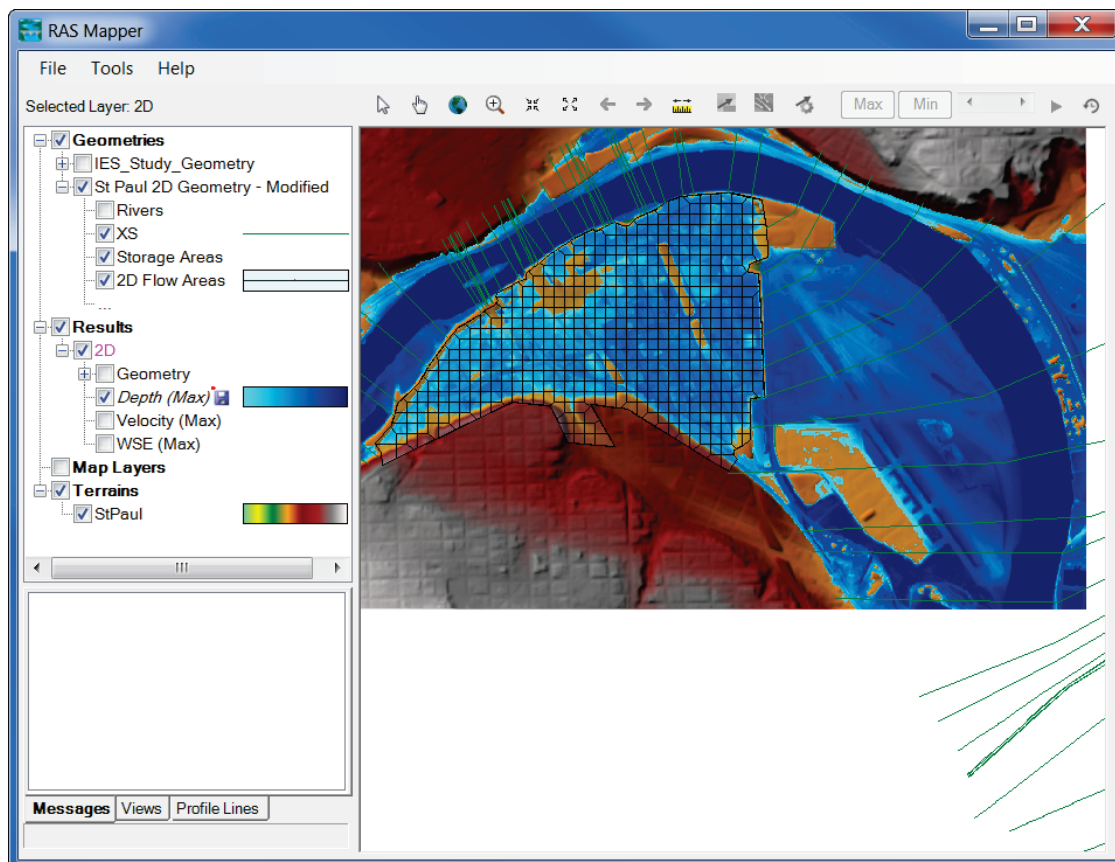

Figure L.44 HEC-RAS – RAS Mapper Dialog Box
2. The **RAS Mapper** dialog box will open (Figure L.44). From this dialog box the user can setup the necessary information in RAS Mapper to create inundation maps, velocity maps, and depth grids. For further detail on this editor, reference the HEC-RAS User's Manual.
3. From the **File** menu, click **Exit**, the **RAS Mapper** dialog box will close (Figure L.44).